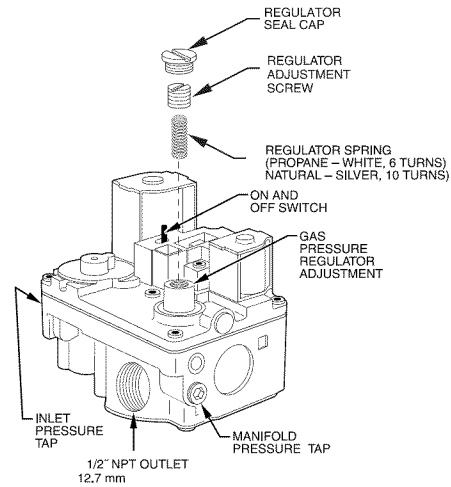

Fig. 25 - Redundant Auto Gas Valve
For E and F valves see Fig. 25 & 26.
2. Remove cap that conceals the adjustment screw for the gas valve regulator. (See Fig. 25 & 26.)
7. Turn the adjusting screw clockwise (in) 10 full turns. This will increase the manifold pressure closer to the natural gas setpoint. (See Fig. 25 & 26.)